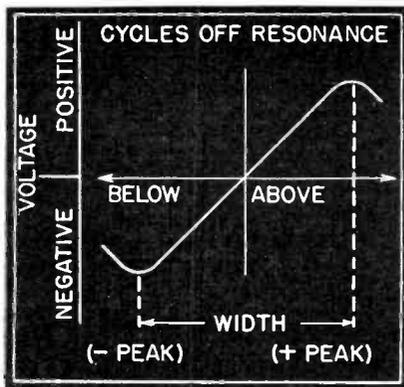

Fig. 10 The above curve shows the effect that a change in input frequency has upon the output voltage of a Foster-Seeley discriminator.
the frequency moves either above or below resonant frequency. Likewise, if one of the tuned circuits (S) has a center tap, the potentials at the ends of the circuit (or coil) are 180° out of phase using the center tap as a reference point. If the center tap is coupled back to the plate end of the primary (P) by means of a condenser (C), the phase angles can be so related that the resulting voltages will cancel at resonance and increase in opposite polarities as the frequency moves either above or below center frequency (Figs. 10 and 11).
With the above circuit, tuning away from or into a station has the same effect if the maximum negative or positive frequency peak is used as the point of reference (See Fig. 10). To eliminate this difficulty and thereby make possible the addition of silent tuning, the grid can be used in conjunction with a squelch circuit as stated above (Fig. 14, circuit 3).